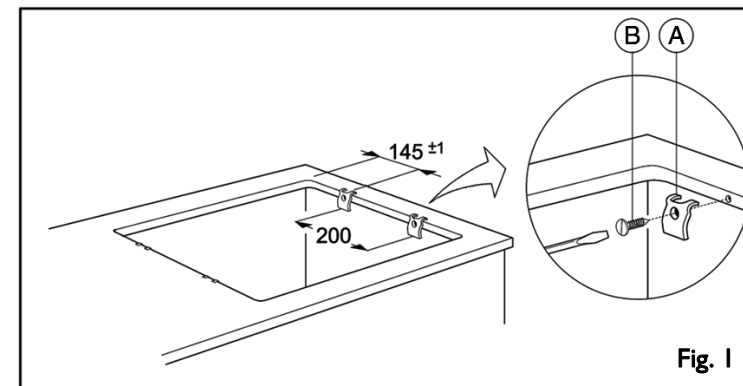

Fig. 1
1. Secure the spring clips (A) (fig. 1) with the screws provided (B) (fig. 1) as shown, paying attention to the specified distances.
1. Fit the hob into the worktop (fig. 1).